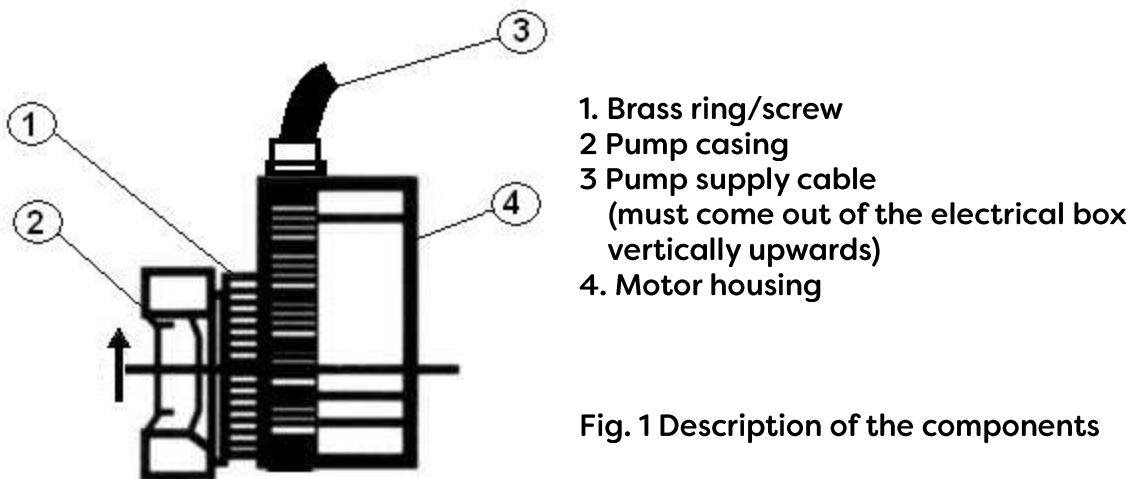

Fig. 1 Description of the components
NOTE Once the pump casing is in the correct position, the brass ring/bolt (Fig. 1 item 1) must be carefully tightened, otherwise the pump gland seal may leak, resulting in flooding of the motor electrical connections with consequent failure. The above can be carried out with the pump not yet installed in the pipeline or after the electrical and water supply has been disconnected and water supply when the pump is already installed.
In the event that the pump is blocked, you should (Fig. 1):